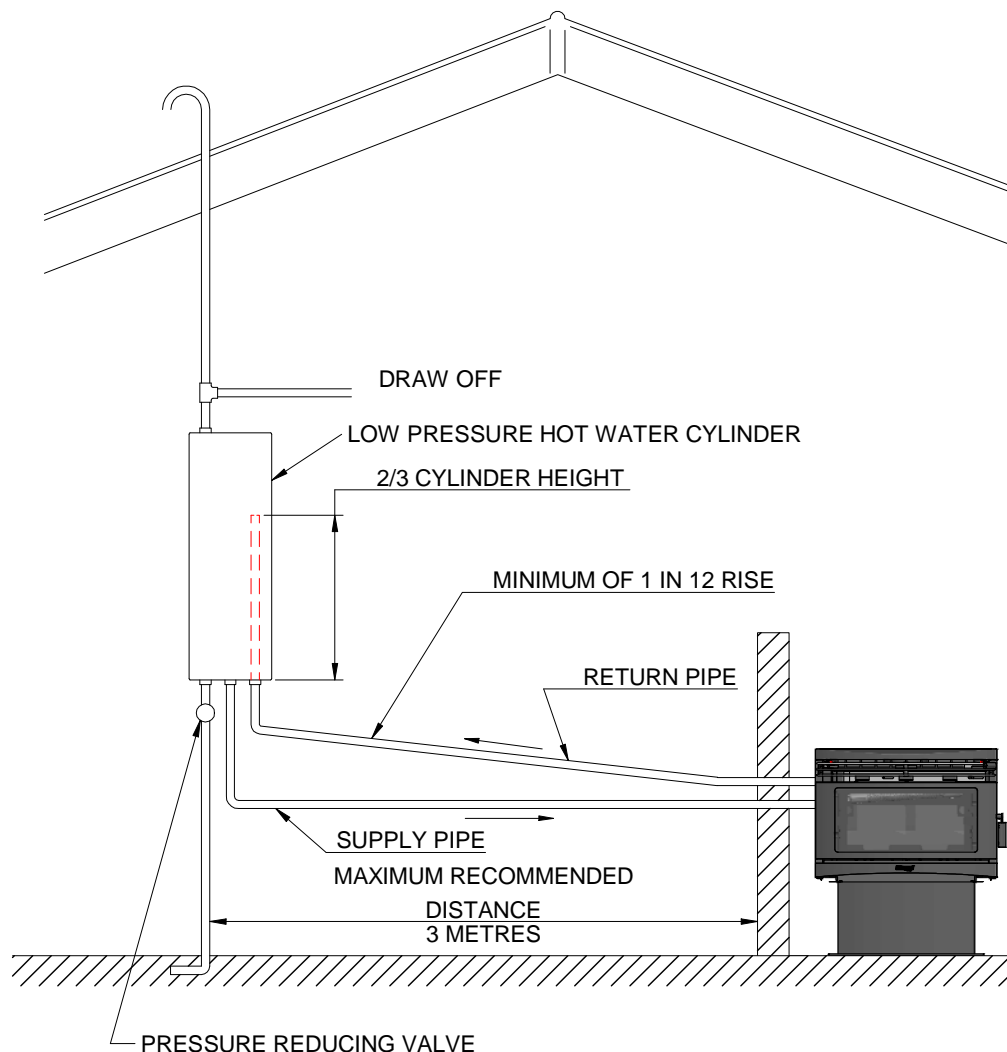

Figure 2 Water pipe installations (LOW PRESSURE)
- IDEALLY, THE CYLINDER SHOULD BE WITHIN THREE METERS OF THE WOOD FIRE. (Refer Figure 2).